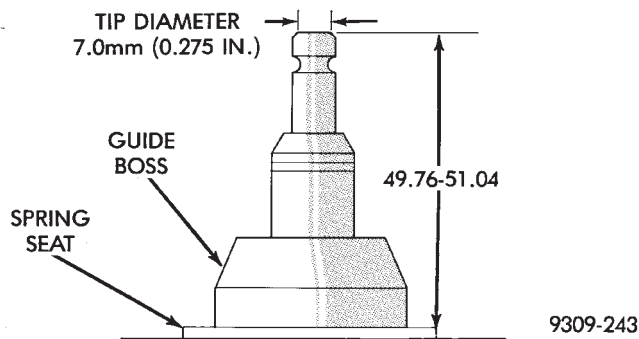

Fig. 25 Valve Tip to Spring Seat Dimensions
(7) Check valve tip to spring seat dimensions after grinding the valve seats or faces. Grind valve tip to get 49.76 to 51.04mm (1.960 to 2.009 inch) over spring seat when installed in the head (Fig. 25). The valve tip diameter should be no less than 7.0mm (0.275 inch), if necessary, the tip chamfer should be reground to prevent seal damage when the valve is installed.